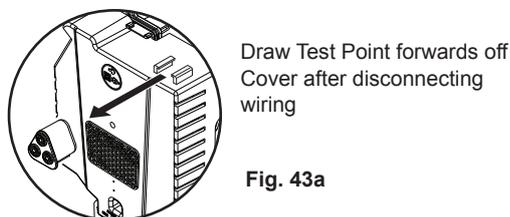

Fig. 43a
10.3.6 "Socket & See" Electrical Test Point (Fig. 43a)